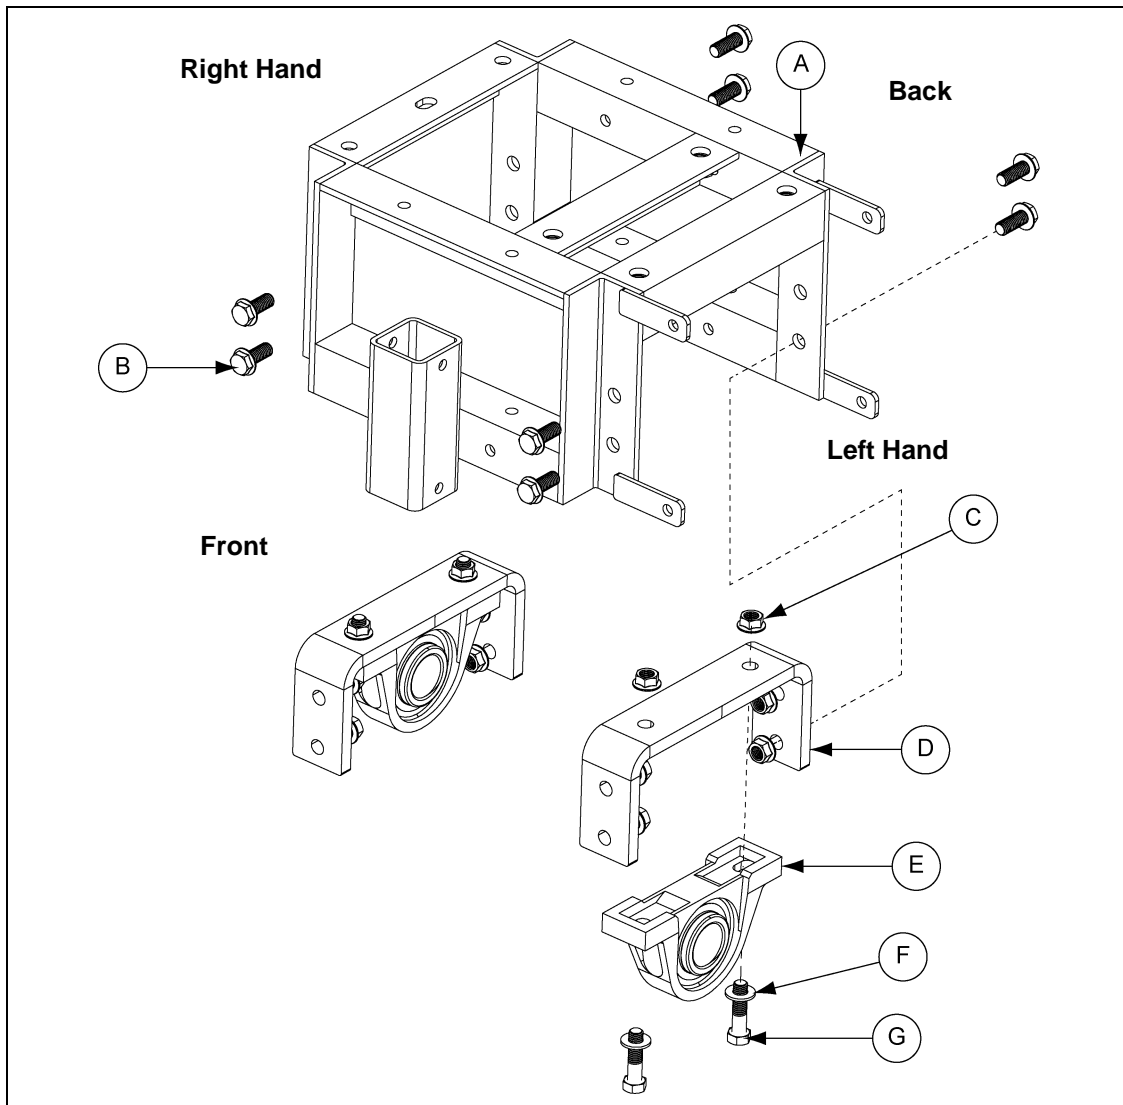

Figure 4A
1. Place the tractor frame (A) on plain flat ground.
2. Bolt each pillow block bearing (E) to a bearing mount bracket (D) using two (2) 1/2"-13 x 2" hex head cap screws (G), two (2) flat washers (F) and serrated flanged nuts (C).
3. Bolt each bearing mount bracket (D) to the tractor frame (A) using two (2) 1/2"-13 x 1-1/4" flange bolts (B) and serrated flanged nuts (C). (See Figure 4A.)